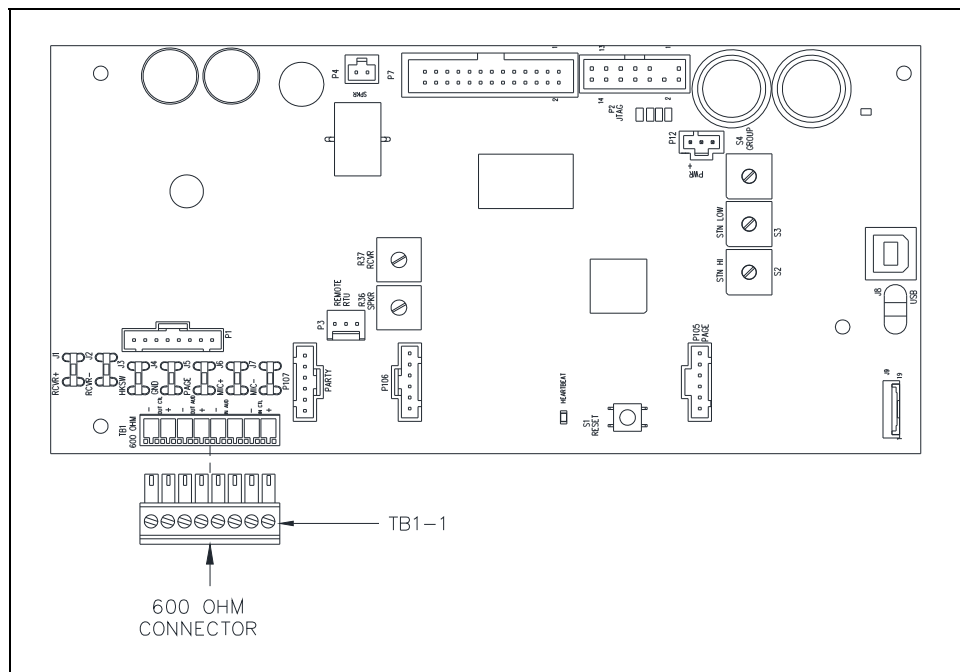

Figure 7. SP2 Main PCBA (POE)
3. Connect the 600-ohm audio wires to the pluggable terminal block for the 600-ohm audio I/O connection (see Table 5 and Figure 7).